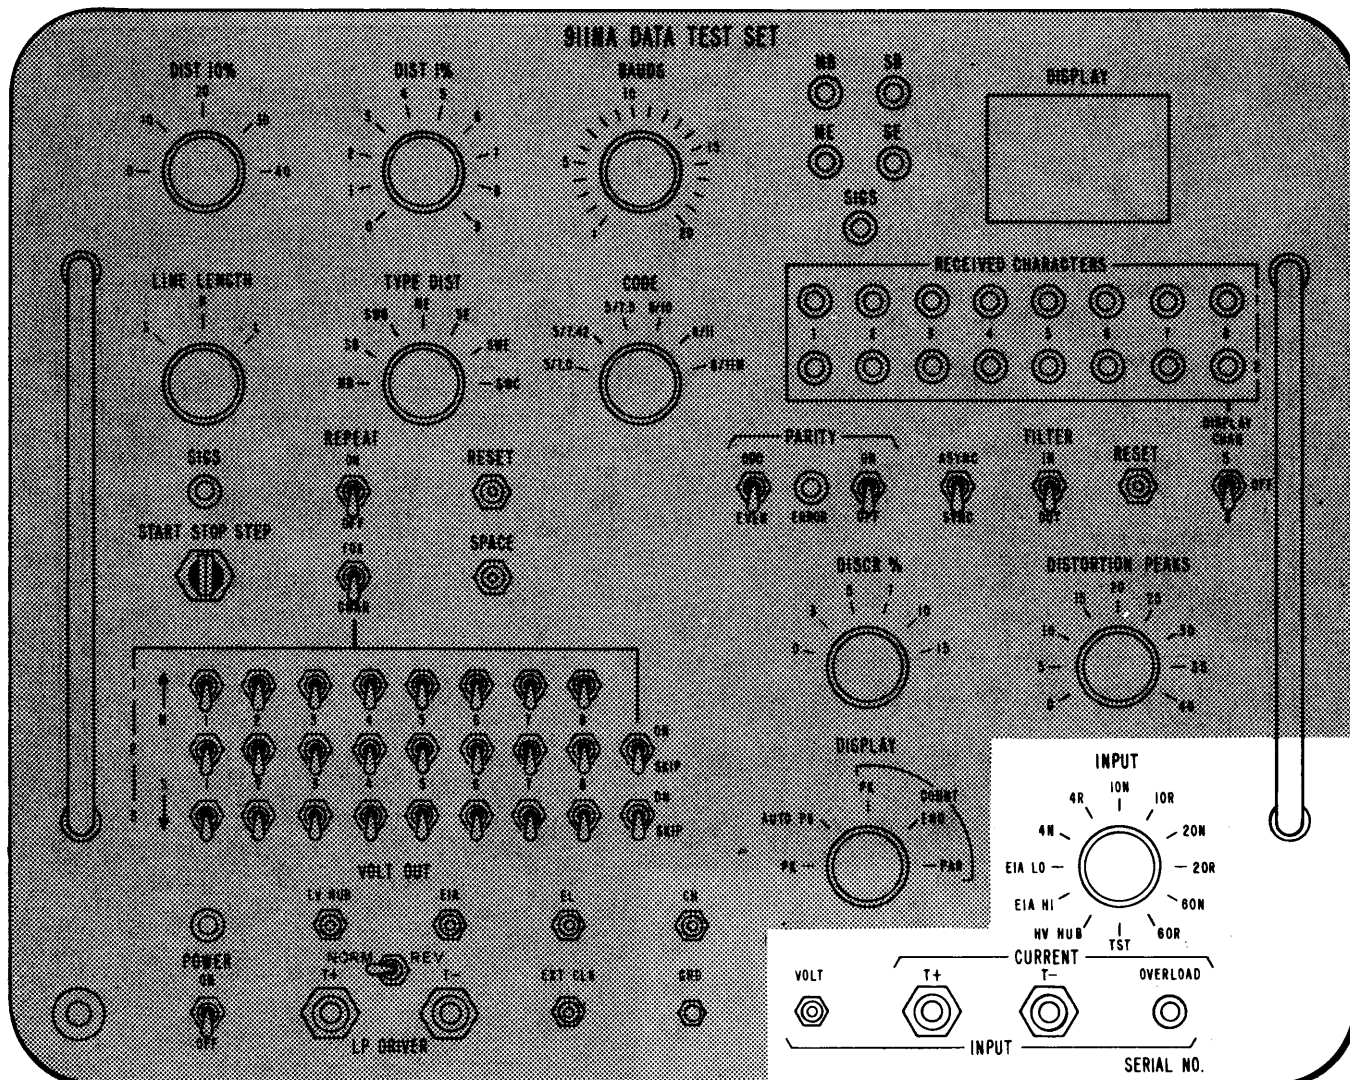

Fig. 15—Location of DMS Inputs
3.30 The input area of the DMS is shown in Fig. 15. All voltage inputs are connected to the **VOLT** jack with the **INPUT** switch set to the proper position [EIA LO (normal EIA signals), EIA HI (provides a high impedance input for bridging on circuits without signal interference), HV HUB (No. 2 hub)] as required. Neutral current signals of 4, 10, 20, or 60 milliamperes, either normal or reversed, are connected via the **T+** (positive on tip) or **T-** (negative on tip) input jacks. The **INPUT** switch must be set to the proper position as required. Input protection for the current inputs provides a short circuit and lights